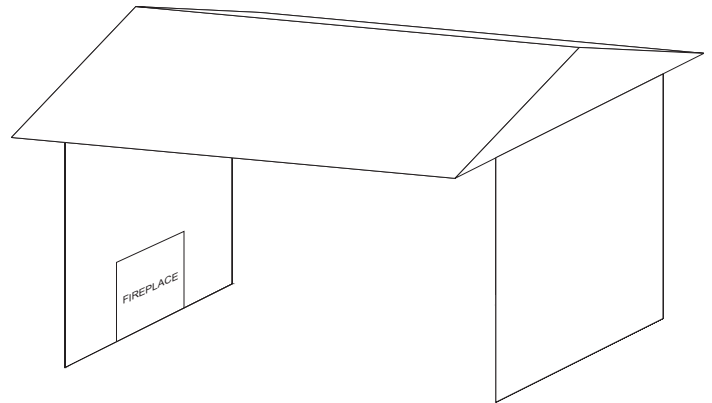

Figure 5
- Within a partial enclosure which includes an overhead cover and no more than two side walls. These side walls may be parallel, as in a breezeway or at right angles to each side. **See Figure 5.**